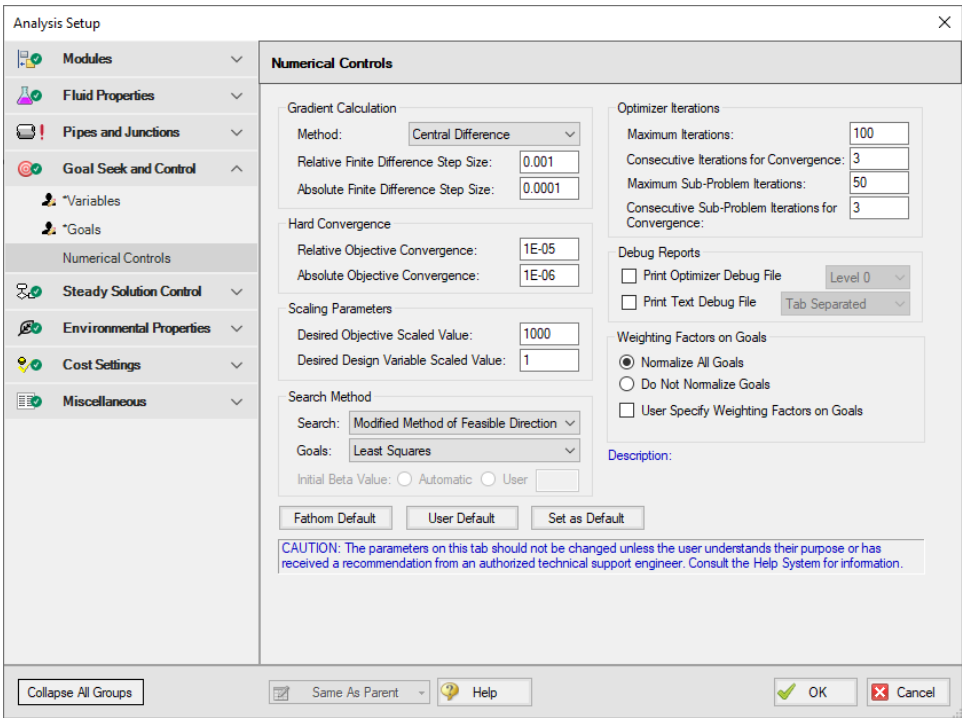

Figure 4: Changing certain numerical control parameters in the Numerical Controls panel in the Goal Seek and Control group may resolve goal seeking difficulties
- **Changing Goal Seeking Numerical Controls** - Figure 4 shows the Numerical Controls panel in Analysis Setup. The most useful parameter one can adjust is the Relative Finite Difference Step Size. Using values between 0.01 and 0.001 are recommended. In some cases using a value as high as 0.1 may be tried.